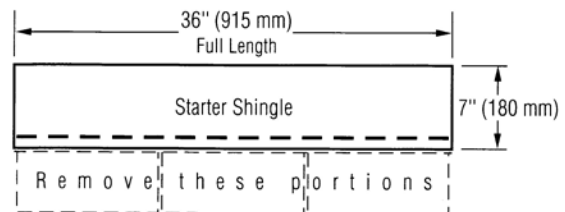

Figure 12-5: Make starter shingles by removing the lower 5" tabs.
1. The starter course consists of shingles from which the lower 5" tabs have been removed (Figure 12-5). Pre-cut starter-course shingles are available from CertainTeed. In many locations, starters are available in two sizes: 5" wide for roofing-over and 7" wide for new and tear-off installations. Remember, the sealant on starter courses should lie as close as possible to the eaves edge of the roof.
1. The starter course consists of shingles from which the lower 5" tabs have been removed (Figure 12-5). Pre-cut starter-course shingles are available from CertainTeed. Starters are available in many locations in two sizes: 5" wide for roofing-over and 7" wide for new and tear-off installations. Remember, the sealant on starter courses should lay as close as possible to the eaves edge of the roof.
1. The starter course consists of shingles from which the lower 5" tabs have been removed (Figure 12-5). Pre-cut starter-course shingles are available from CertainTeed. In many locations starters are available in two sizes: 5" wide for roofing-over and 7" wide for new and tear-off installations.